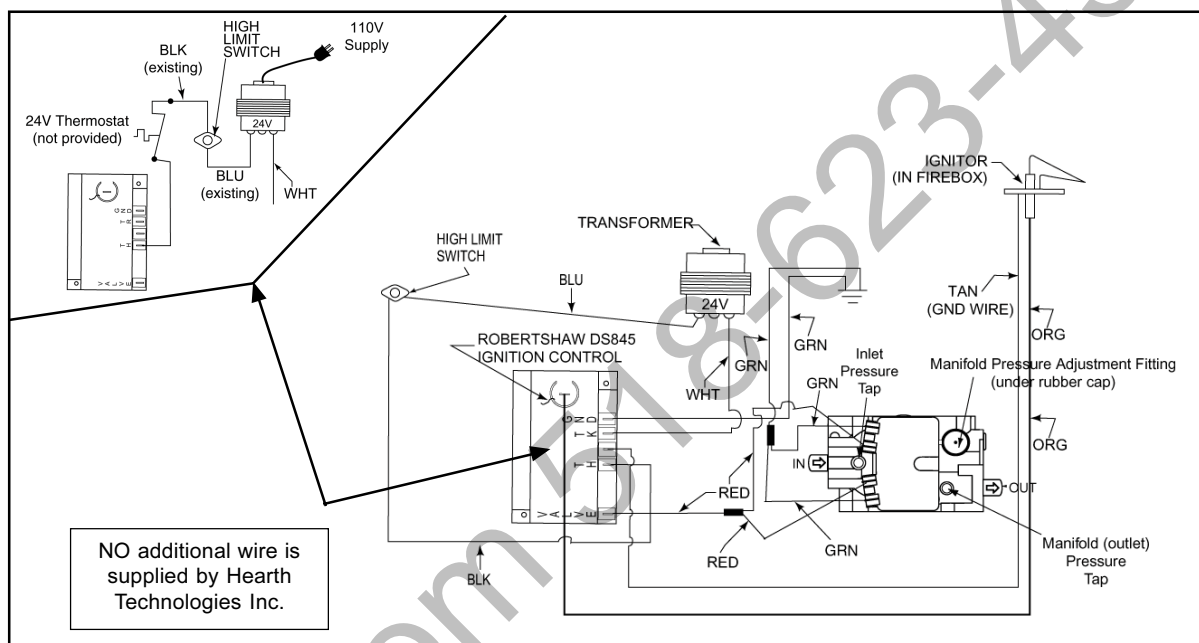

Figure 16 - Electronic Ignition Wiring Diagram
- 2) Only heater listed appliances may be connected to a thermostat. If connecting a 24V thermostat (not supplied), disconnect the black wire from the transformer or high limit switch at the ignition control. Connect the thermostat wires between the ignition control box and the black wire (from transformer or high limit switch). See Figure 16.